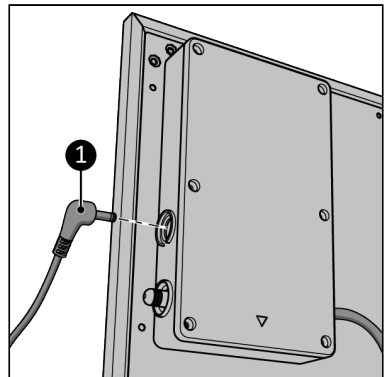

Figure 19.
2. Connect the external temperature sensor connector (Figure 19, pos. 1) to the sensor plug.